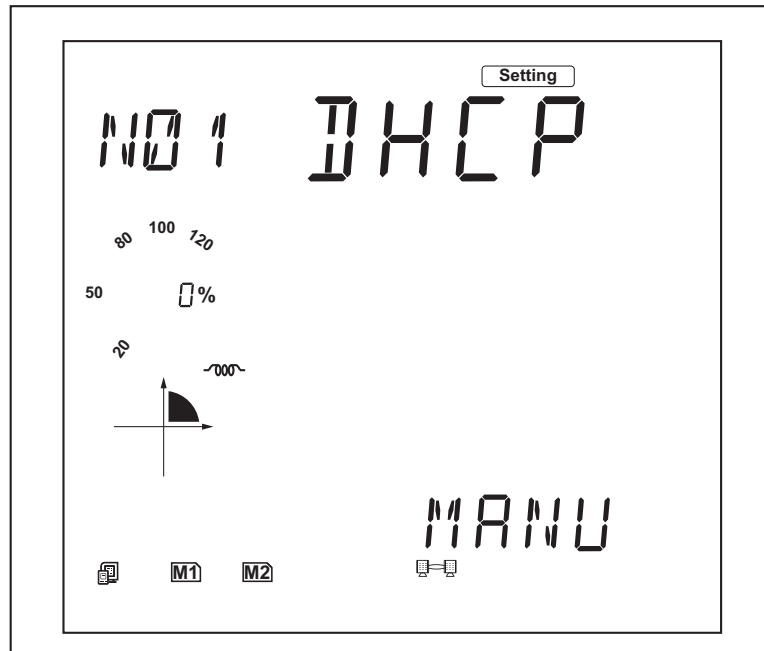

Figure 15: N01: DHCP
4. Press **P** to get to N01:DHCP (Figure 15 on page 15).